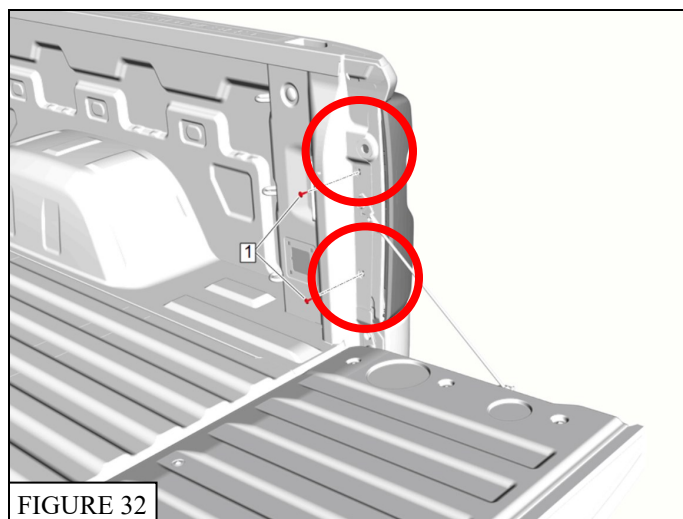

FIGURE 32
26. Remove the passenger tail light by unscrewing the two screws seen below using a T-15 Torx Bit. (**Fig. 32**)